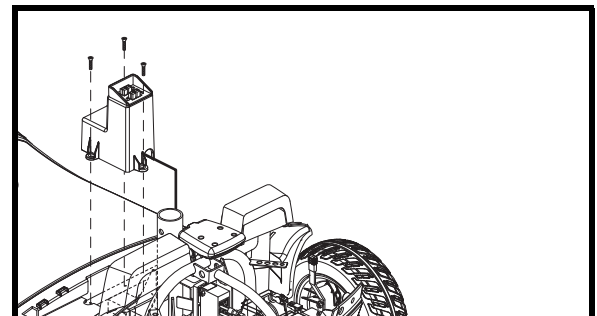

Figure 9. Battery Connector Module Removal
8. Remove the battery connector module. See figure 9.